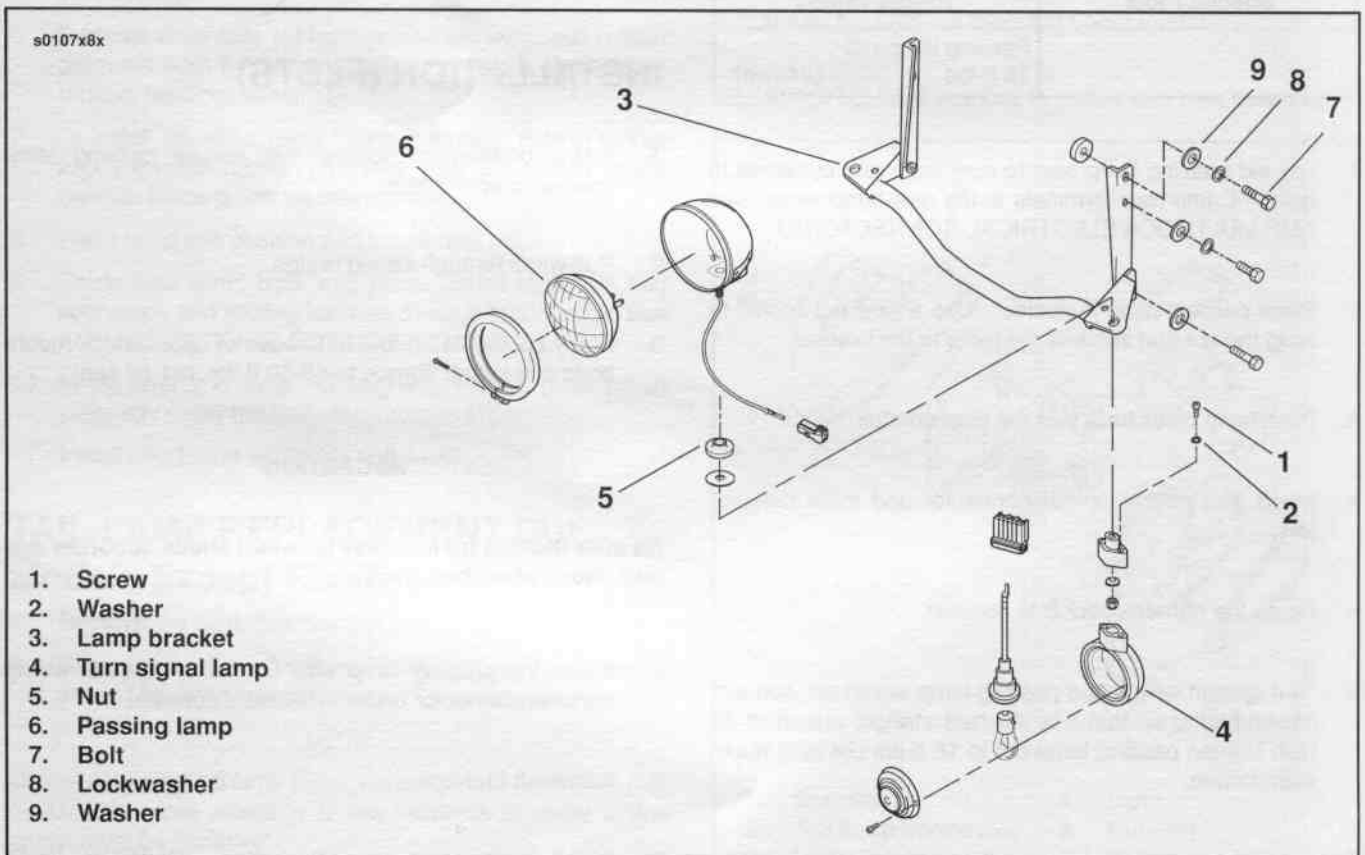

Figure 8-40. FLSTC Passing Lamp Bracket
2. See Figure 8-40. Remove screws (1) and washers (2) that secure the turn signal lamp to the passing lamp bracket (3). Remove lamp(s) (4).
5. Use a flare nut socket to remove the nut (5) that secures lamp (6) to bracket. Remove passing lamp(s) (6).
6. Remove bolts (7), lockwashers (8) and washers (9) securing passing lamp bracket to fork brackets. Remove passing lamp bracket.